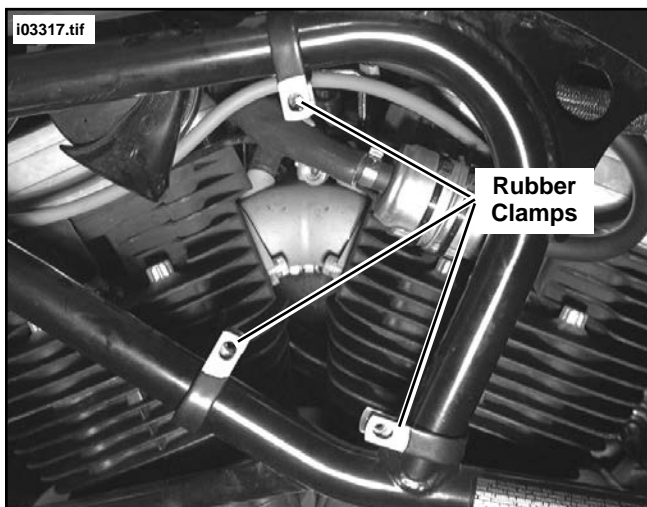

Figure 2. Install Clamps to Frame
The original plastic fuel filter present on 1999 model year vehicles was recalled as part of Recall Campaign 0819. If recall part (metal fuel filter as shown in Figure 2) is not present on vehicle being serviced, recall 0819 must be performed by an authorized Buell dealer using the fuel filter bracket provided with this kit.
3. See Figure 2. Cut the two wire ties that hold the fuel filter to its bracket and remove the bracket from the rear cylinder head. Discard bracket.
7. See Figure 2. Install the three rubber fan bracket clamps (part number C0529.KA), oriented as shown, to frame members. The clamps will be slid into position during the next step.